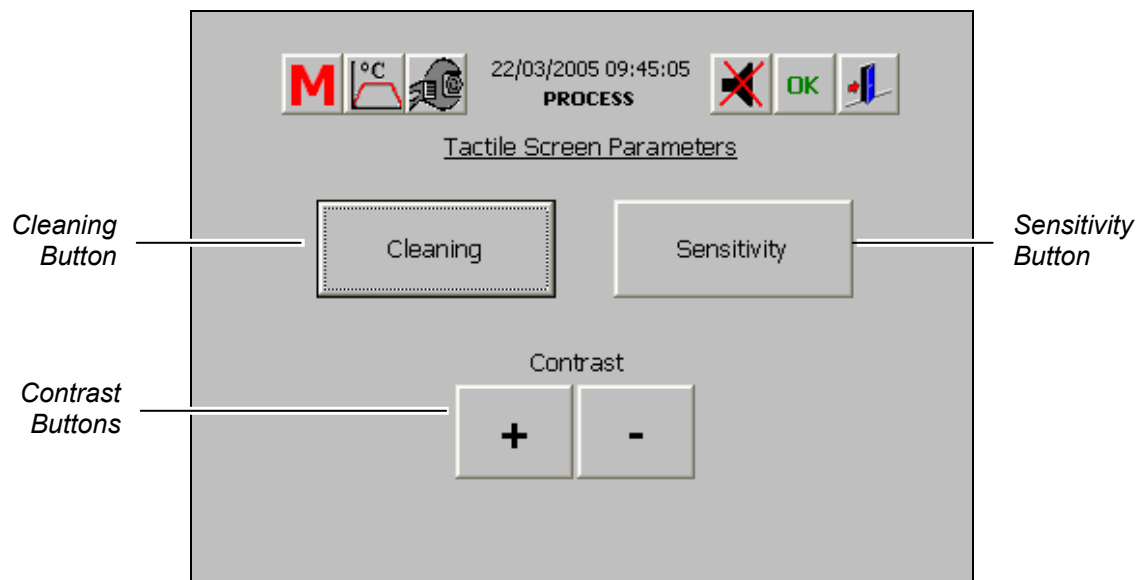

Figure 6-39 Tactile Screen Parameters Screen
2. The Tactile Screen Parameters screen appears (Figure 6-39).